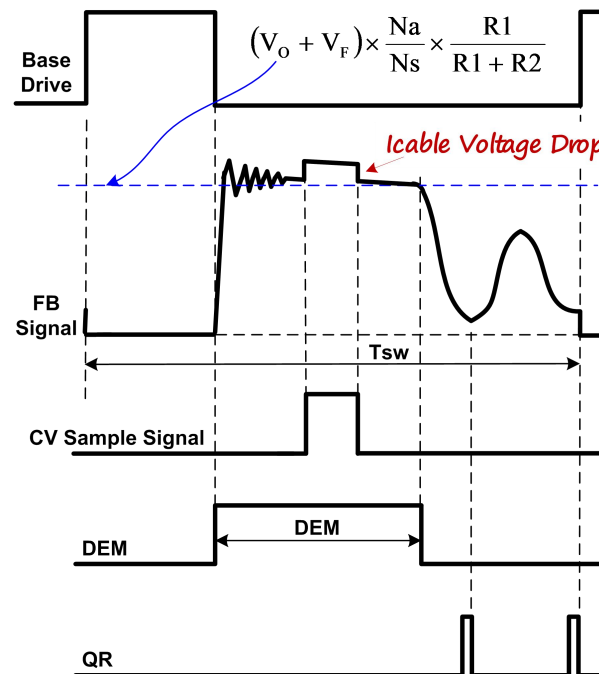

Fig.2
In Primary Side Regulation (PSR) control, the output voltage is sensed on the auxiliary winding during the transfer of transformer energy to the secondary. Fig.2 illustrates the timing waveform of CV sampling signal, demagnetization signal (DEM) and quasi-resonant (QR) trigger signal in DP2525A. When the CV sampling process is over, the internal sample/hold (S&H) circuit captures the error signal and amplifies it through the internal Error Amplifier (EA). The output of EA is sent to the Quasi Resonant PSR CV Modulator (QR-CVM) for CV regulation. A valley is selected to trigger new PWM cycle by the output of the QR-CVM block, which is determined by the load. The internal reference voltage for EA is trimmed to 2V with high accuracy.
During the CV sampling process, an internal variable current source is flowing to FB pin for Cable Drop Compensation (CDC). Thus, there is a step at FB pin in the transformer demagnetization process, as shown in Fig.2. Fig.2 also illustrates the equation for “demagnetization plateau”, where Vo and Vf is